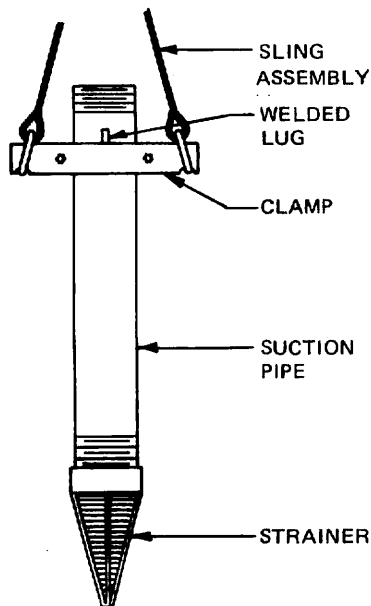

FIG. 1. — SUCTION PIPE AND STRAINER RIGGED FOR LIFTING.
2. Attach a pipe clamp to the upper end of the first piece of suction pipe as shown in Fig. 1.